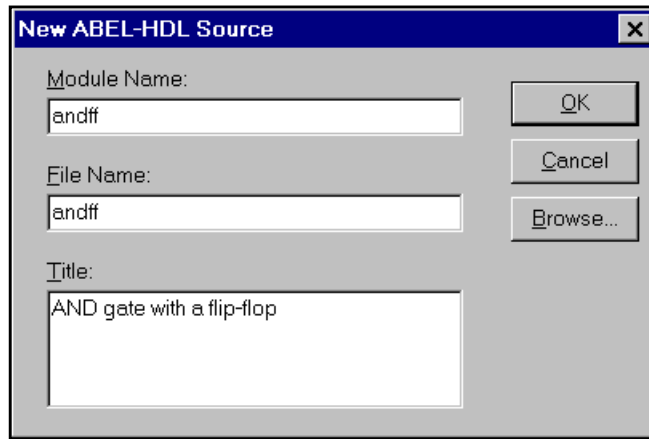

Figure 3-4. New ABEL-HDL Source Dialog Box
3. Click **OK** to close the dialog box. The Text Editor loads and the New ABEL-HDL dialog box (Figure 3-4) appears prompting you for a module name, file name, and title.